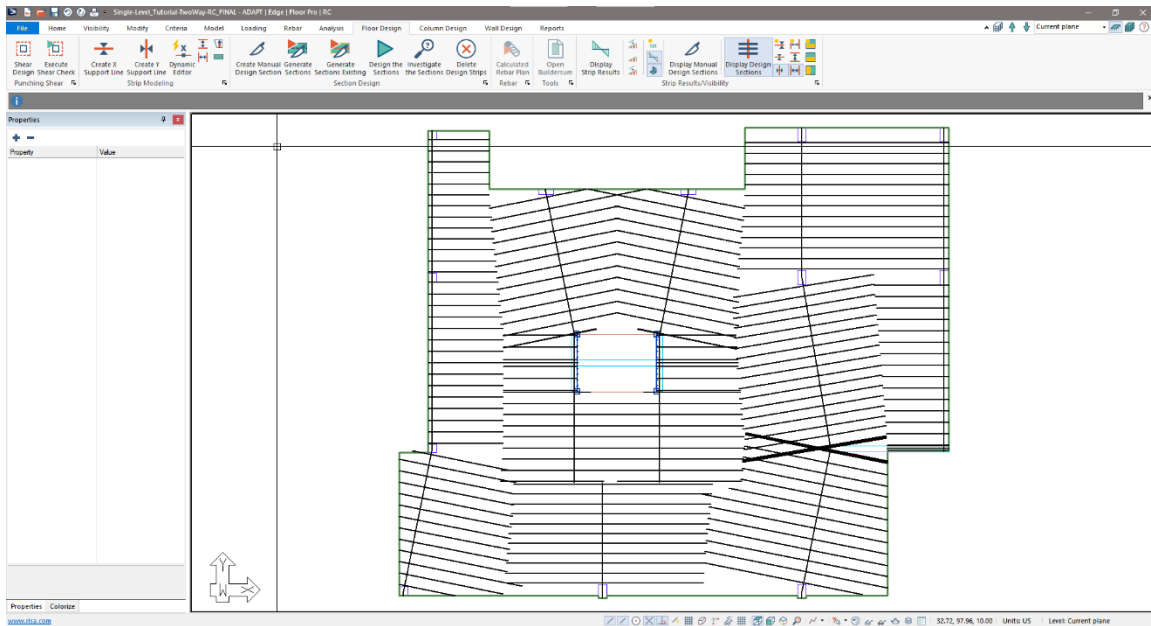

Figure 6-31
- Click on the *Display/Hide Support Lines in Y-direction*  icon two times to turn on the support lines in the Y-direction only. When finished, the user should see design sections cut as shown in **FIGURE 6-31**.